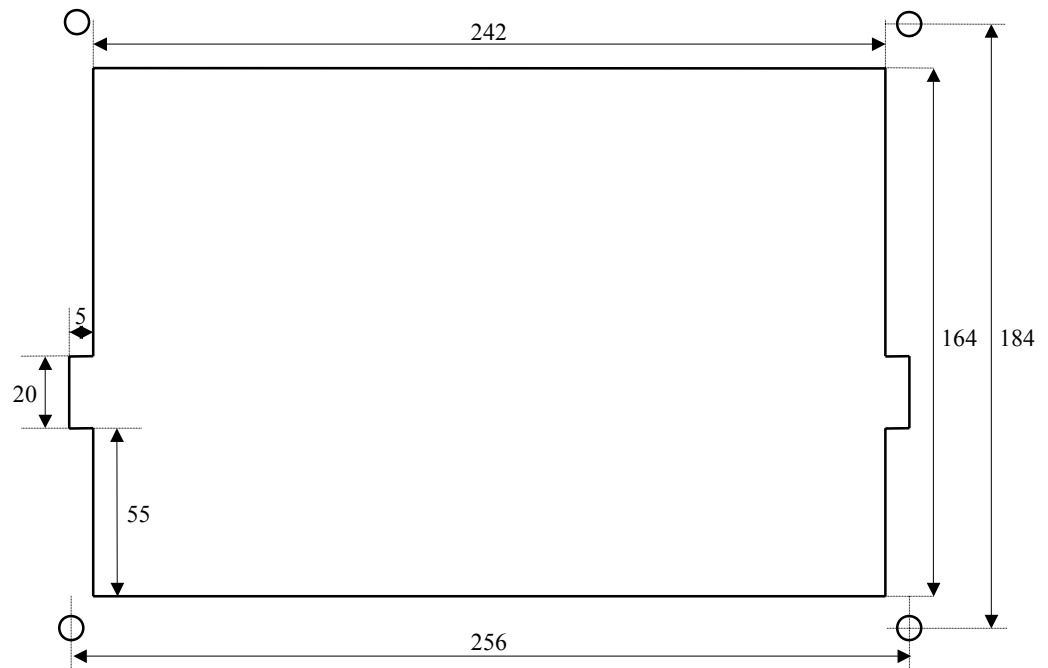

Figure 12: Panel mount hole dimensions
- 2) Make one rectangular hole and four round holes, according to Figure 12 in the panel. (If the hole template is available, place the template in the right position and drill and saw according to the template. If this method is used, exclude step 3 and 4, in this instruction.